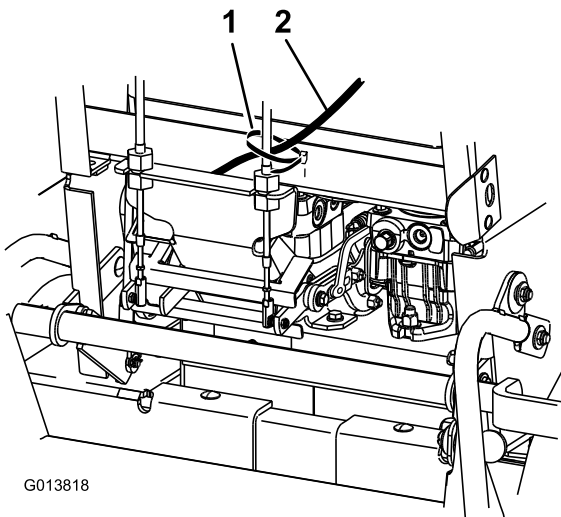

Figure 7
10. Using the plastic tie, fasten the speed control cable to the right control cable (Figure 7).